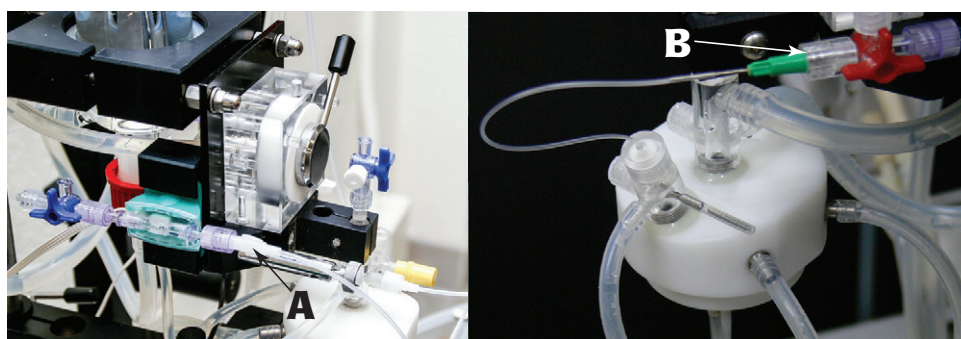
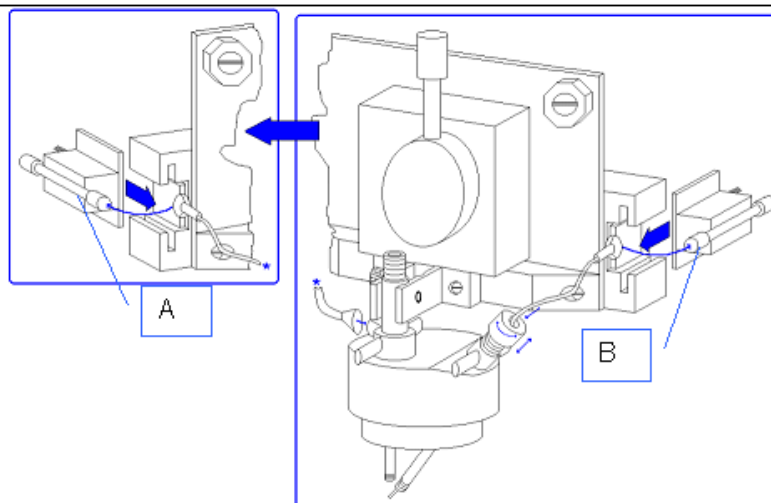

Fig. 36—A show the sensors installed on the left side of the valve tap. B shows the sensor installed on the right side of the valve tap.
Fig. 37—A show the sensors installed on the left side of the valve tap. B shows the sensor installed on the right side of the valve tap.
2. Install the sensor that measures the perfusion pressure in Langendorff mode, or aortic pressure when in Neely mode, on the left side of the valve tap (A in Fig. 36 and Fig. 37).
3. If the left ventricular pressure (LVP) is going to be measured, install another sensor on the right side of the valve tap assembly (B in Fig. 36 and Fig. 37).